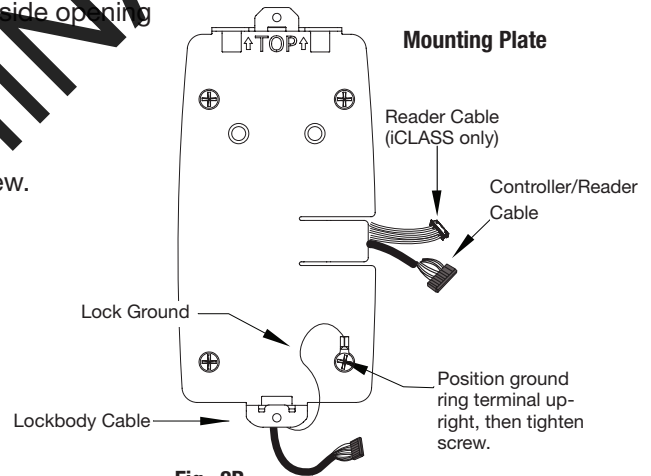

Fig. 8B
4. Insert other three #8-32 x 1-7/8" flat head machine screws and tighten, fastening the outside escutcheon to the door (Fig. 8B).